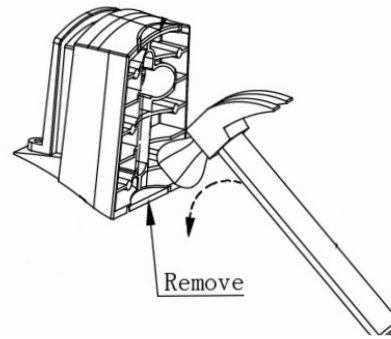

Fig 4
1. Use hammer gently knock down top and bottom lips. (Fig. 4)